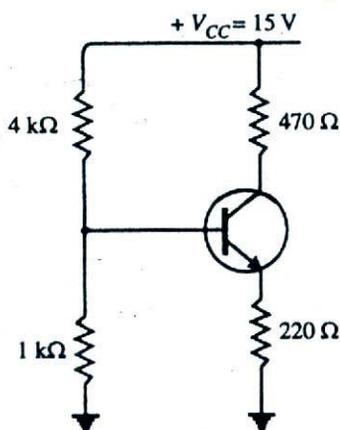

Fig. 11.34
7. In the transistor circuit shown in Fig. 11.34, find the operating point. Assume the transistor to be of silicon. [  $I_C = 10.5 \text{ mA}$ ,  $V_{CE} = 7.75 \text{ V}$  ]